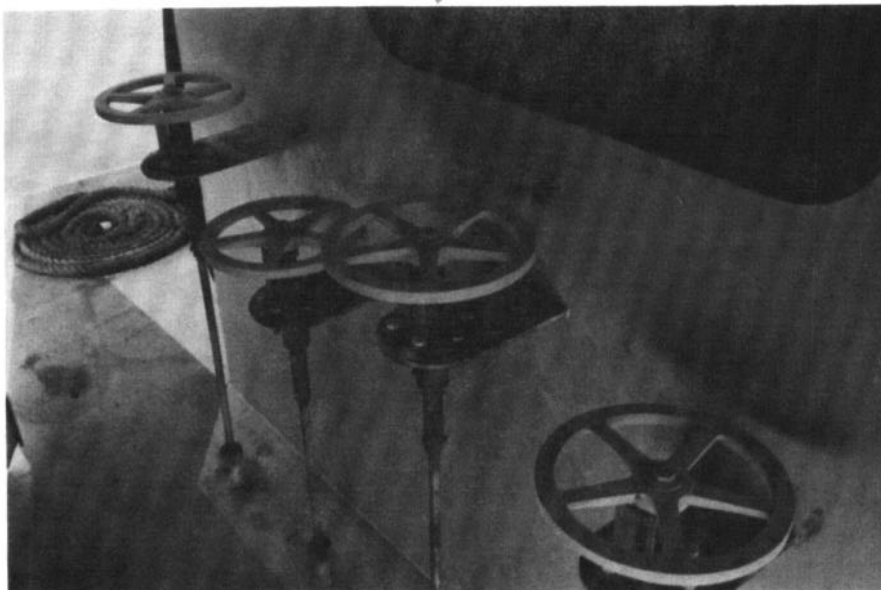

FIGURE 2-16
2.5.3 MANIFOLD VALVES. The Pump Room manifold, shown in Figure 2-15, can be aligned to allow loading or discharging of any of the four cargo tanks. Each cargo tank is connected to a 3-way, 2 port Morland valve. These valves can be aligned to load or discharge any tank and transfer cargo between tanks. Remote operating gear has been provided for these valves. Handwheels and position indicators are mounted at the Operator Station, shown in Figure 2-16. The valves can also be operated in the Pump Room using the handwheels on the control rods.